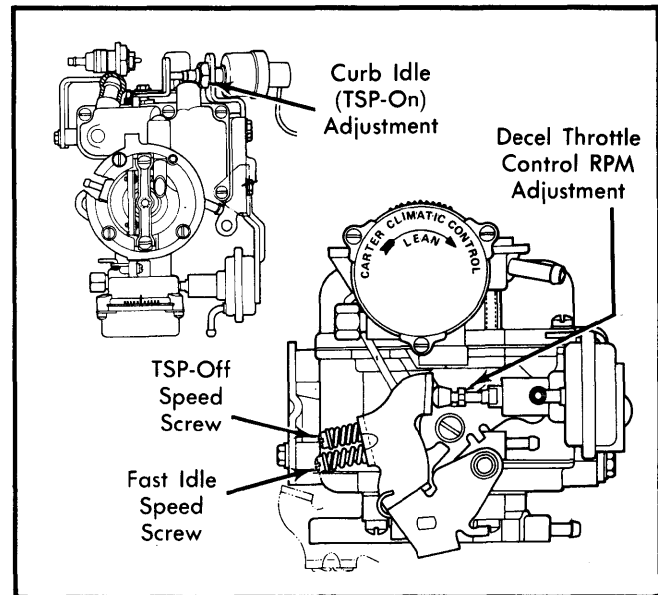

Fig. 3 Adjusting YFA 1-Bbl. Carburetor on 4.9L Engines (Heavy Duty)
2) Activate Throttle Solenoid Positioner (TSP). Set curb idle to specification by screwing solenoid in or out. See Fig. 3.
- 2) Disconnect and plug vacuum hose to decal throttle control diaphragm. Place fast idle adjusting screw on second step (kickdown) of fast idle cam. See Fig. 3. Adjust fast idle speed to specifications.